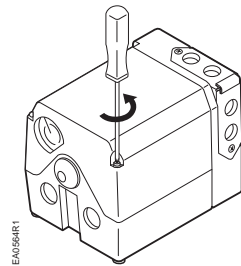

Figure 2.
1. Loosen the two screws on the actuator cover corners. See Figure 2.